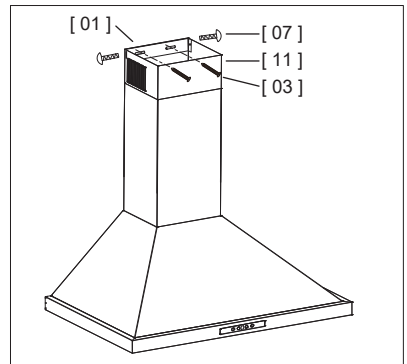

Fig 7
1. Center the **Chimney Mounting Bracket [01]** over the **Range Hood [09]** and hold it at the position. (Fig 7)
2. Secure the **Chimney Mounting Bracket [01]** with two **#10 x 1.77" Screws [03]**. (Fig 7)
3. Pull up the **Upper Flue [11]** and secure with two **M4 x 0.23" Screws [07]** from two sides. (Fig 7)